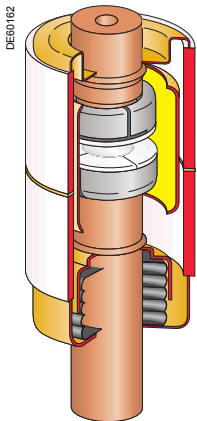

Fig. 5: 24 kV internal coil type interrupter
- or by a coil integrated in the interrupter contact structure (fig. 5), for the 24 kV voltage level.